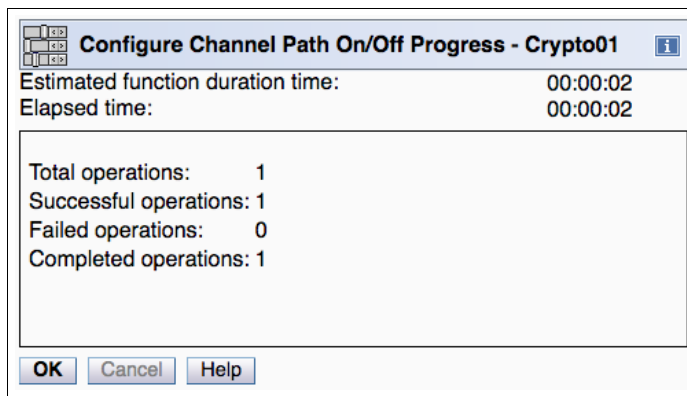

Figure 10-31 Config On/Off (Online to Standby) completed
5. Confirm that your request is completed (see Figure 10-31). Click **OK**.